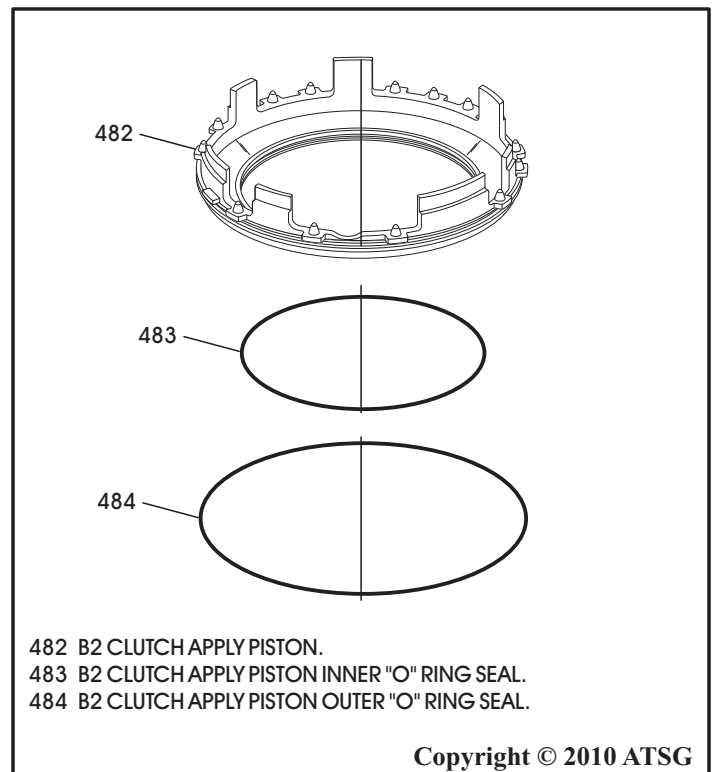

Figure 92
6. Install new inner and outer "O" ring seals into B2 clutch piston grooves, as shown in Figure 92, and lube with small amount of Trans-Jel.